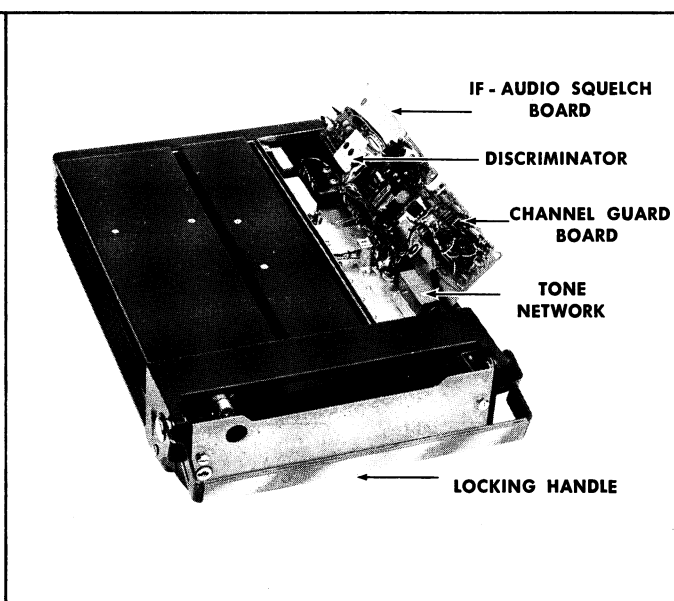

Figure 4 - Removing Bottom Cover
1. Pull locking handle down. Pull radio out of mounting frame. (see Figure 4).